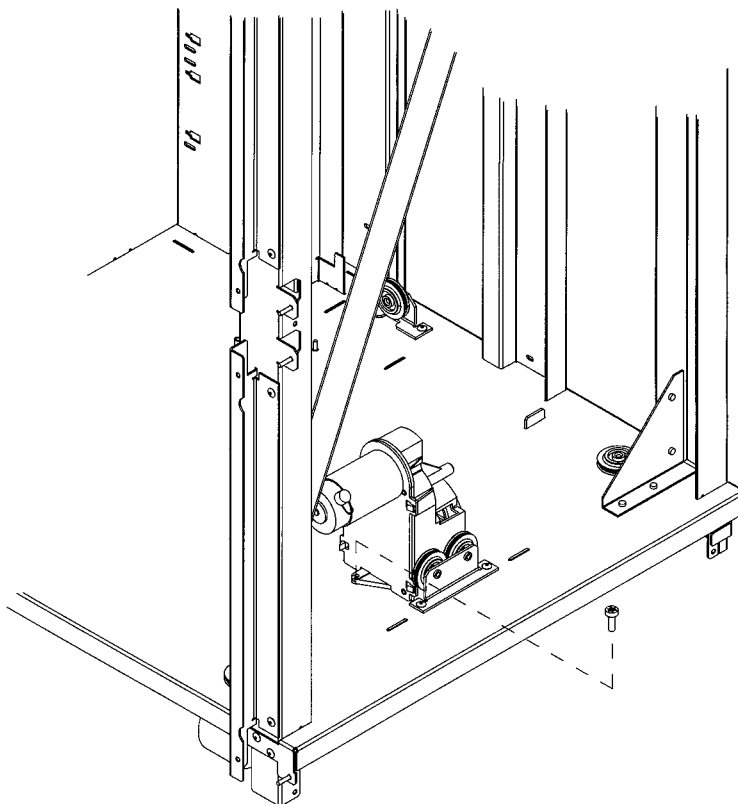

Figure 77: Vertical Motor Gear Box Mounting Screw
9. Remove the gear box by removing one T-25 screw from the base of the gear box. Tip the gear box forward and lift it out (see Figure 77).